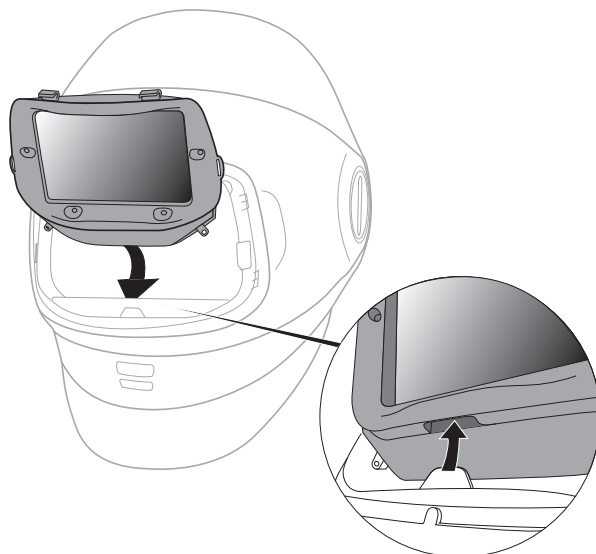

Fig. 21i
- f. Reinstall the ADF into the outer welding shield by first setting the ADF onto the lower tab at the center of the outer welding shield (Fig. 21i).